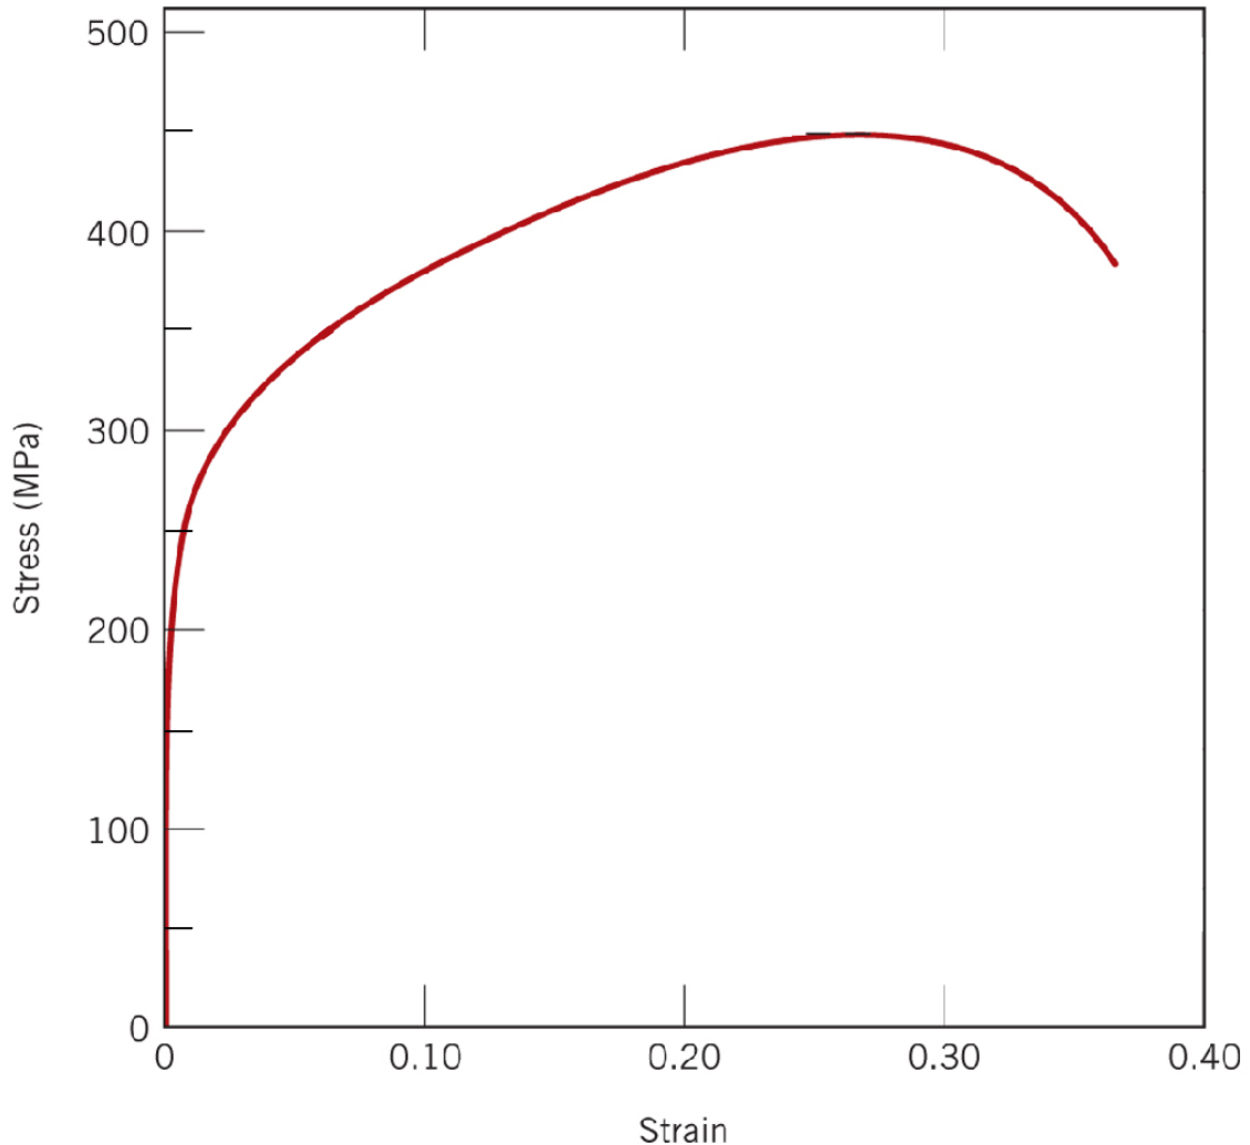

Figure 5: Tensile stress-strain curve plotting engineering stress (y-axis) versus engineering strain (x-axis). For use in problem 2.d.
- d. Shown in Fig. 5 is the tensile stress-strain curve for an alloy with composition 0.38wt.% C, featuring a yield strength of $\sigma_{\text{yield}} = 250$ MPa, an ultimate tensile strength of TS = 450 MPa, and a ductility corresponding to 37% elongation. On Figure 5, sketch a tensile stress-strain curve for the alloy with a composition of 1.40wt.% C, assuming the following: (i) it has the same Young's modulus as the alloy with composition 0.38wt.% C, (ii) $\sigma_{\text{yield}} = 350$ MPa, (iii) TS = 500 MPa and (iv) the ductility corresponds to 30% elongation.